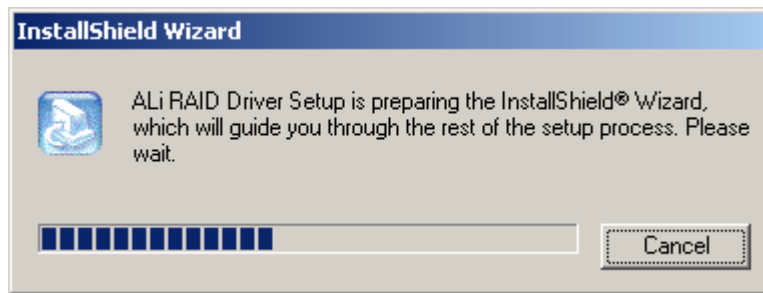

Figure 6-25: RAID Driver Preparing Setup Screen
Step 2: The **Install Shield Wizard (Figure 6-25)** is prepared to guide the user through the rest of the process.